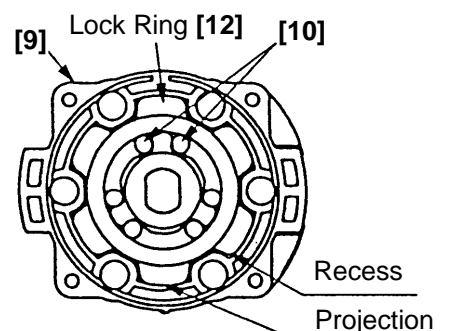

Fig. 11
(b) Install the six Needle Rollers (C) **[12]**. (See Fig. 11)